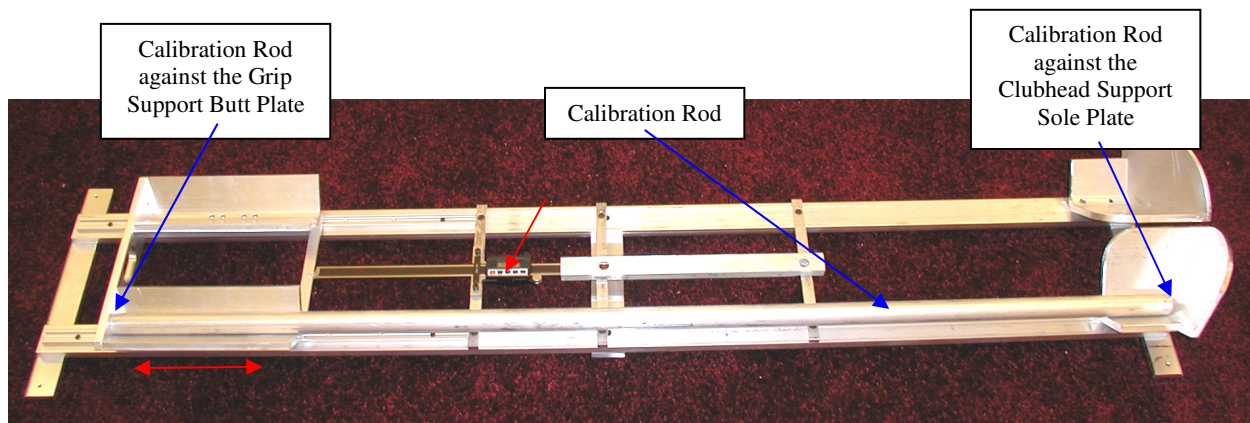

Figure 5.3.3–Calibration of the Length Measurement
5.3.3 Gently slide the grip support assembly back to the right until the butt plate just touches the end of the calibration rod and then zero the digital scale, Figure 5.3.3.
5.5 Gently slide the grip support assembly back to the right until the butt plate just touches the end of the grip and then read the value on the digital scale, Figure 5.3.3(a) and 5.5(b).